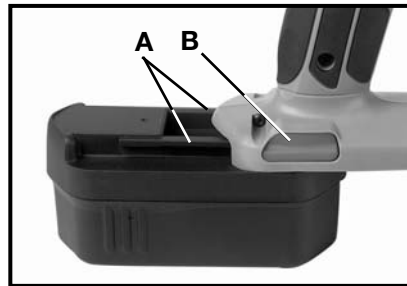

Fig. 9
To remove a battery pack, depress the battery release button (B) Fig. 9, and pull battery pack out of tool.
To install a battery pack, align rails (A) Fig. 9 on battery pack with slots on tool and push battery pack onto tool until it locks in place.